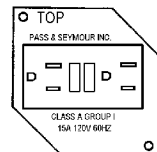

Figure 2B
- B. For 460026P and Device (See Figure 2B).